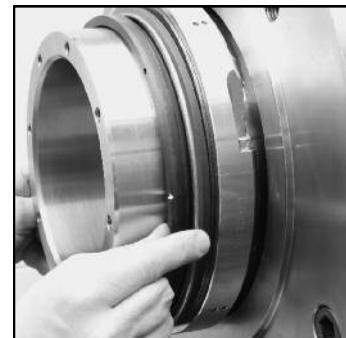

Figure 12
3. While holding the primary ring halves together with the split joints aligned, center the retaining ring over one of the split joints of the primary ring and slide it into the groove on the primary ring outside diameter (OD). Figure 12. Check the primary ring split joints for steps at the lapped sealing surface and outside diameter (OD). Adjust the split joint alignment if necessary.